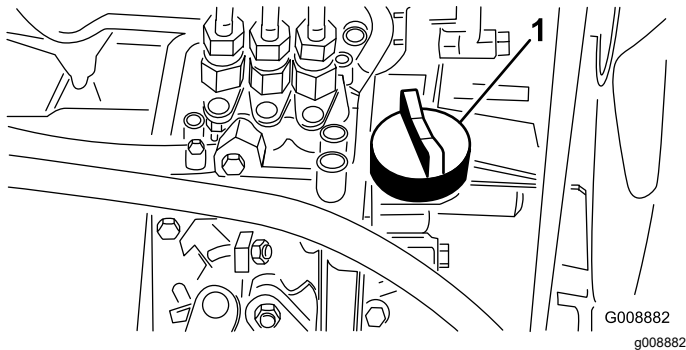

Figure 49
4. If the oil level is low, remove the oil-fill cap (Figure 49) and gradually add small quantities of oil, checking the level frequently, until the level reaches the Full mark on the dipstick.